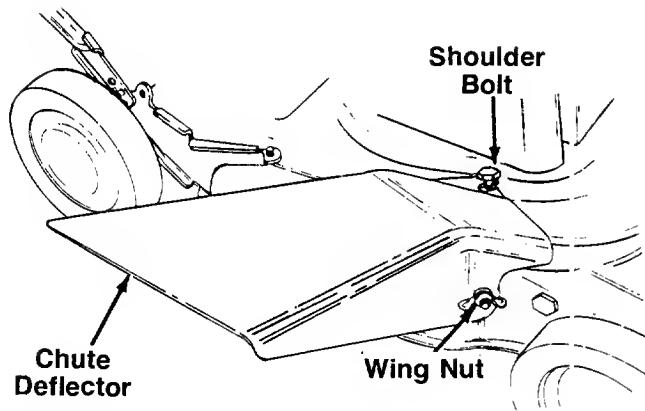

**FIGURE 11.**
5. **Models 176R and 177R Only:** If not already assembled, slip the starter rope into the rope guide as shown in figure 11.